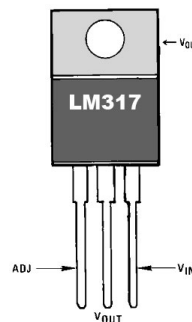

Figure 4: Pin out of the LM317 IC.
1. Using Fig. 4 as a reference, build the regulator circuit on the breadboard. You should be able to find the LM317 pinout diagram from its datasheet, which you find from online. *As a general suggestion, it is important to keep your circuit well laid out and keep the connecting wires as short as possible. Cut the wires to the right length if necessary.* Fig.xxx shows